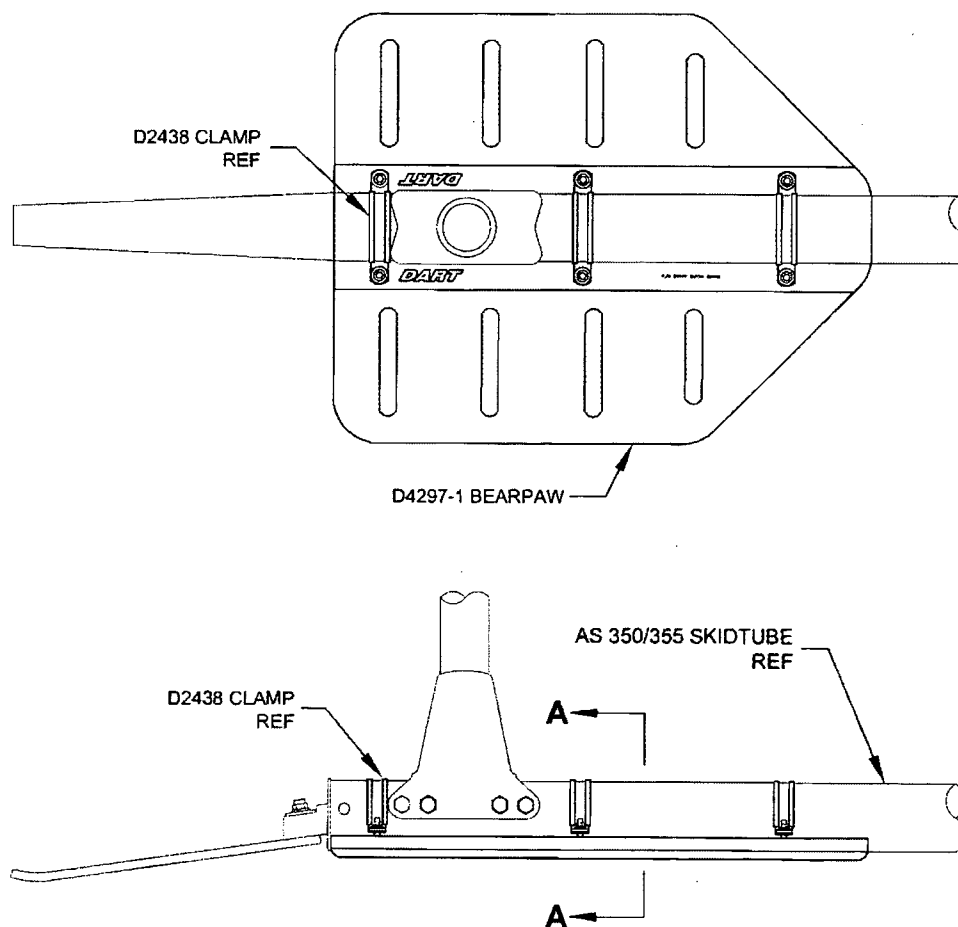

Figure 2. Bearpaw Location (Side View & top View)
- 2.3 Position the D4297-1 Bearpaw on the aft end of each skid tube as shown in Figure 2.
- 2.3 Position the D4297-1 Bearpaw on the aft end of each skidtube as shown in Figure 2.